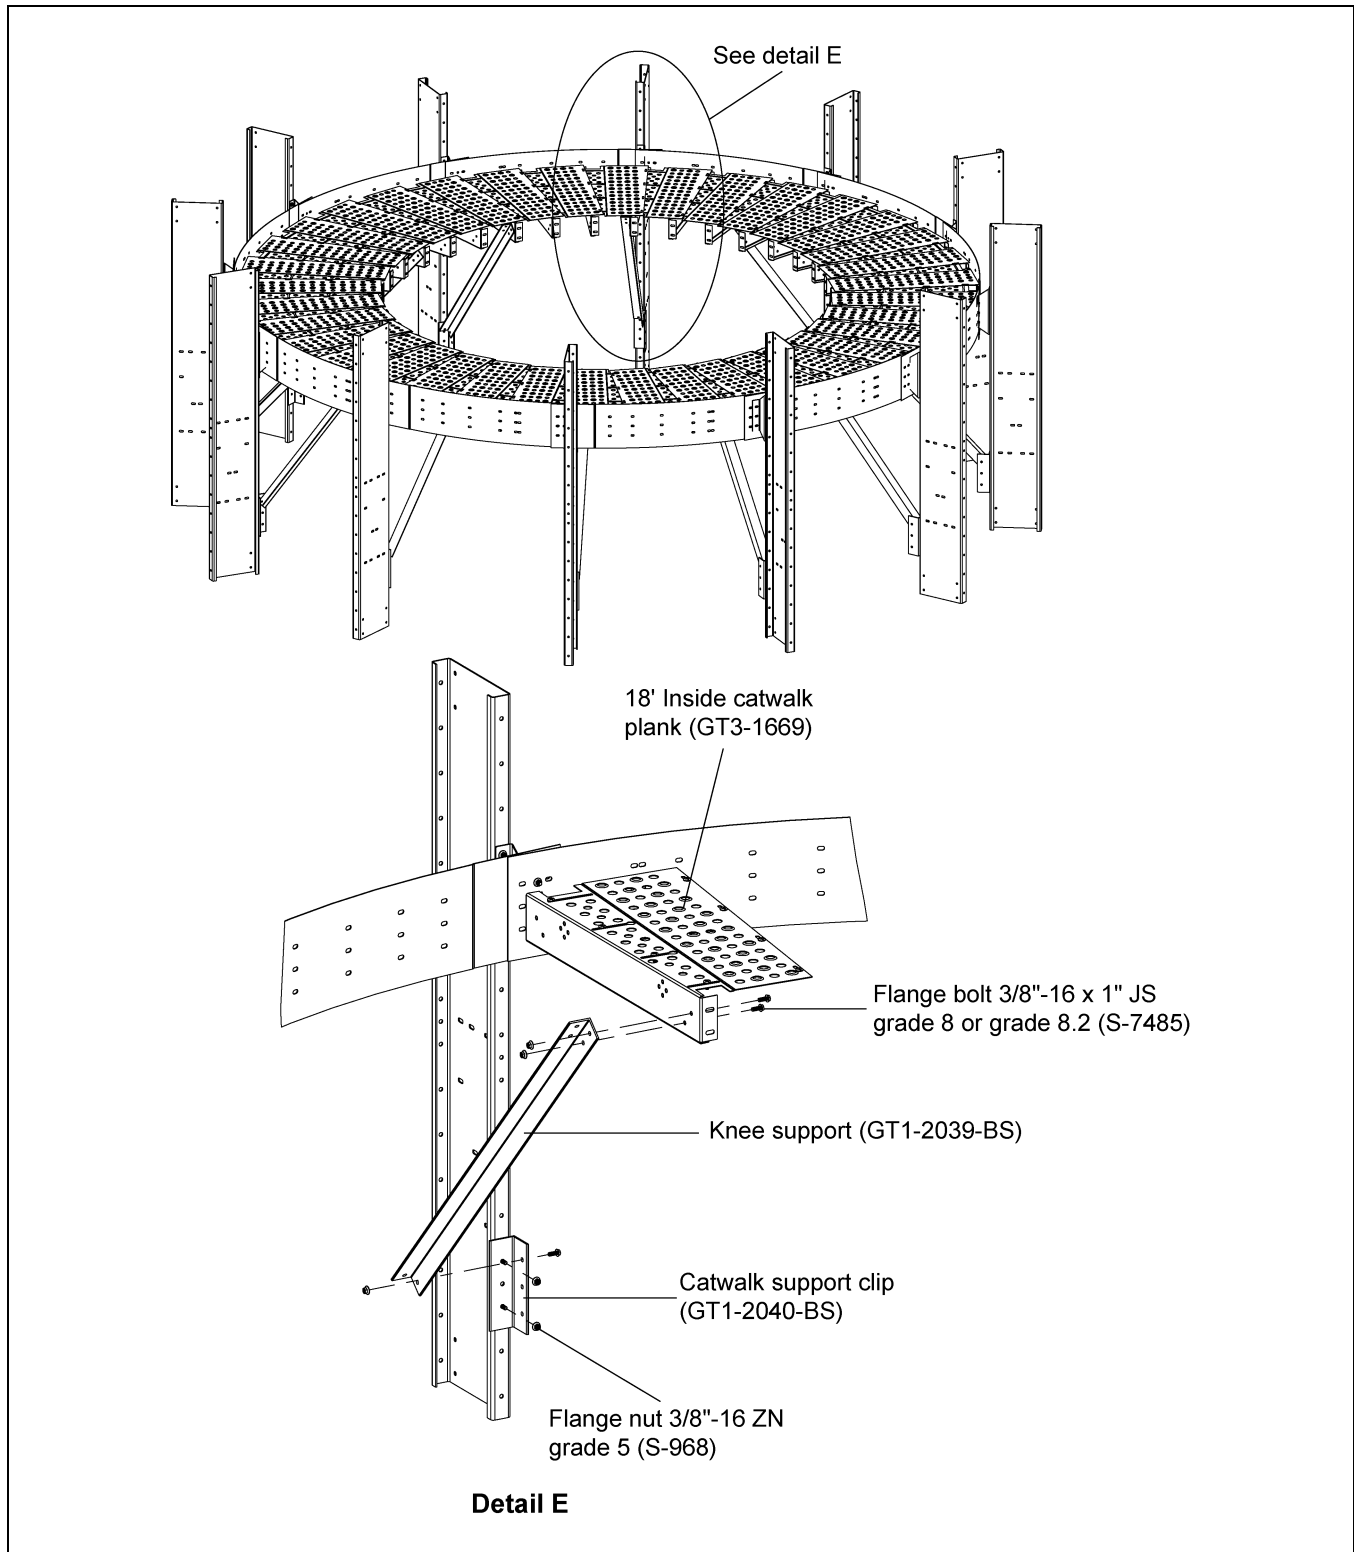

Figure 5I
1. Install the knee support (GT1-2039-BS) around the dryer between the catwalk support clips (GT1-2040-BS) and planks (GT3-1669) using 3/8"-16 x 1" JS grade 8 or grade 8.2 bolts (S-7485) and 3/8"-16 ZN grade 5 nuts (S-968). (See Figure 5I.)